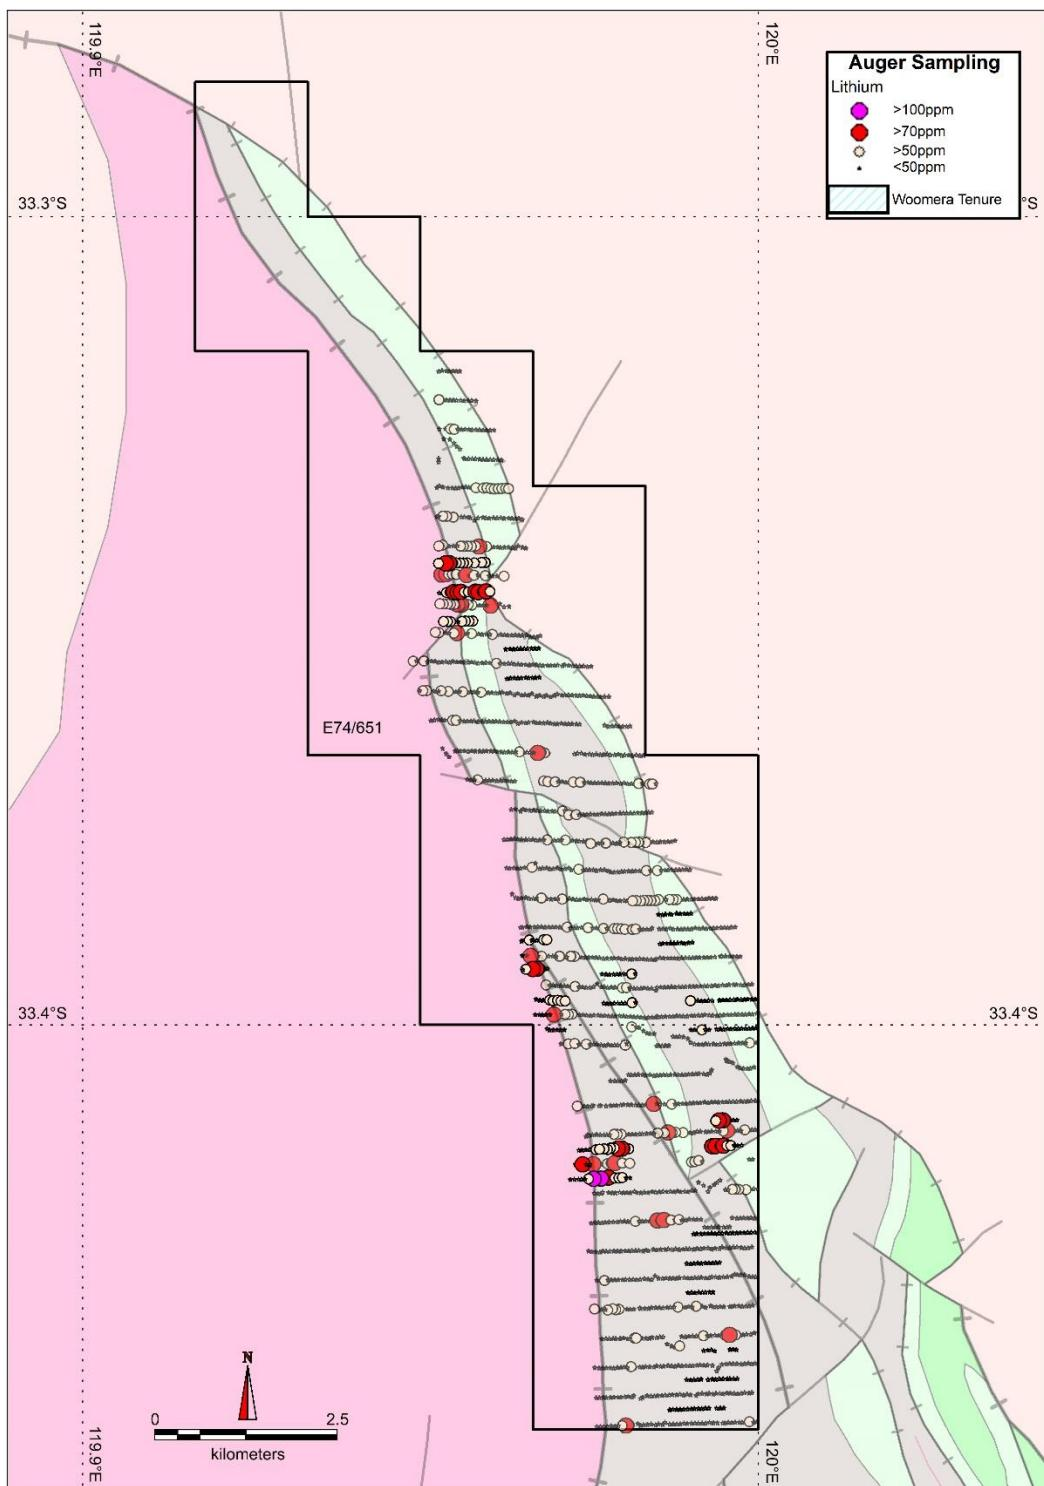

Figure 2: Auger assays for lithium at the Mt Short JV tenure on Geology (DMIRS-16/1:500,000) plan.
- Two lithium anomalies within the Mt Short JV tenement with multiple samples exceeding 150ppm Li₂O (Figure 2).